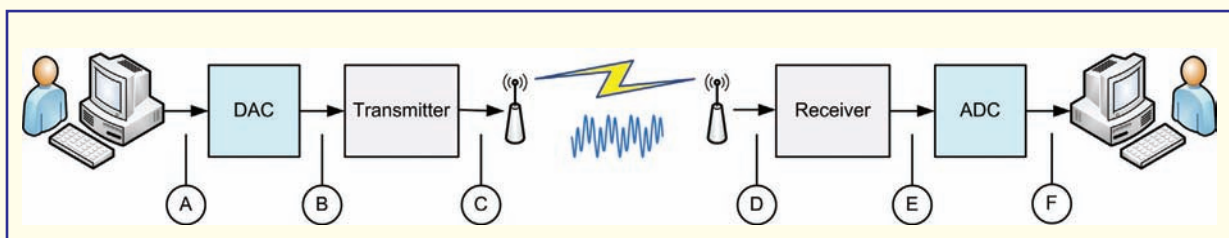

Fig.1.12. See Question 1.11
1.11. Fig.1.12 below shows an electronic system that uses both analogue and digital signals. Take a careful look at the diagram and see if you can understand how it works before answering the following questions: